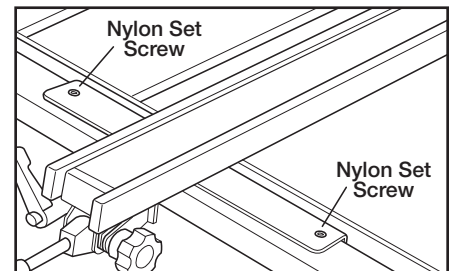

Figure 2
1. Lightly engage the main fence lock. Simply snugging the fence to the rail at this point is fine. The nylon set screws shown in Figure 2 should be resting on the fence rail.
3. Raise or lower the nylon set screws shown in Figure 2. Rotate both the set screws the same amount to prevent disturbing the square adjustments made in the previous step.